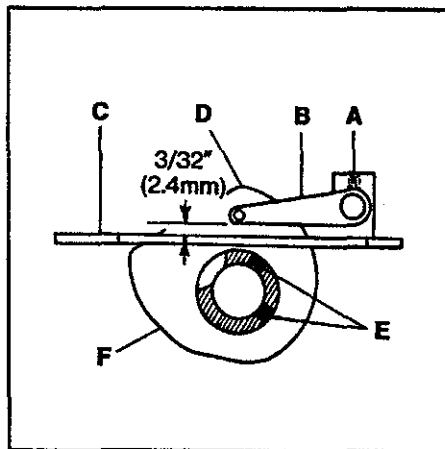

FIG. 34
Loosen screw (A, Fig. 34) and set the lower edge of cover thread take-up eyelet (B) so it's  $3/32"$  (2.4mm) above the surface of cast-off plate (C). Tighten screw (A). As the cover thread hook moves to the left over the cover thread and the needle bar starts to rise, the cover thread must "cast-off" from the high point of take-up (D). Loosen screws (E) and adjust take-up (F) accordingly. Make sure that take-up (F) is centered in cast-off plate slot (C) and take-up eyelet (B) is centered to take-up (F). Tighten screws (E).